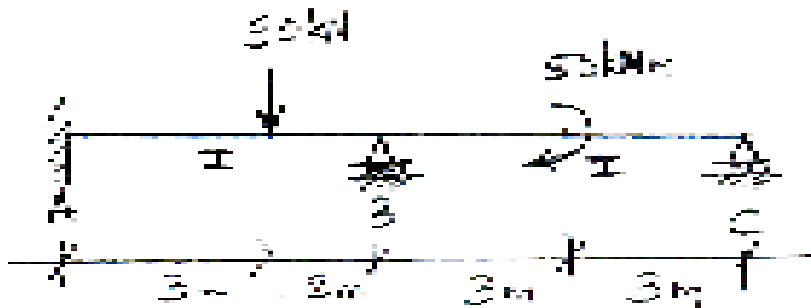

Fig. 7
4. a) Using theorem of three moment, find support moment. Hence plot BMD for a uniform beam shown in Fig. 7. 8